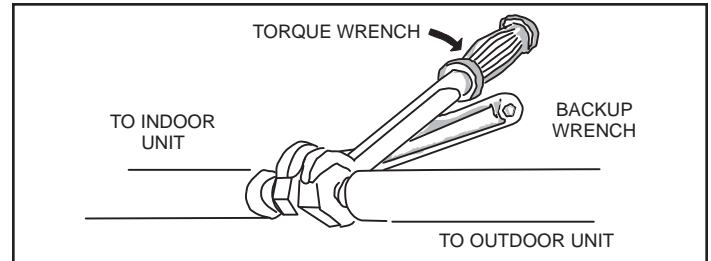

**Figure 8. Making Connections at Indoor Unit (Male to Female Connection)**
6. Apply recommended HFC-410A refrigerant lubricant to the outside of the flared refrigerant lines (figure 8-A).
- Align the threaded connections with the flared refrigerant lines. Tighten the flare nuts lightly at first to obtain a smooth match (figure 8-B).